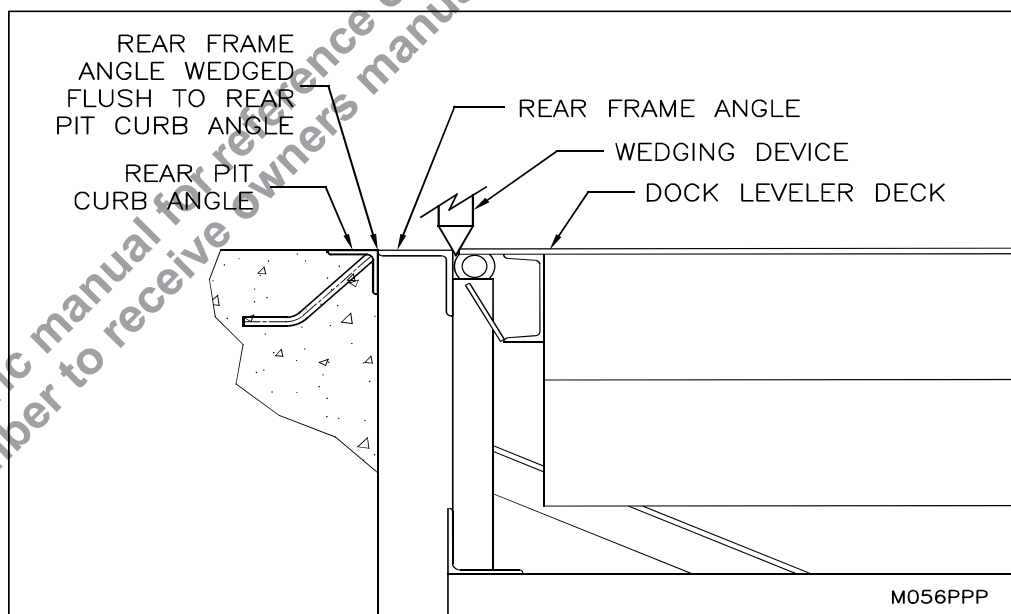

Figure 15: Wedging the Rear Frame Angle
4. ___ Make sure the rear pit curb angle is straight and level prior to installation. Make sure the dock leveler rear frame angle (or flat bar) is straight to match the rear pit curb angle. If the rear frame angle (or flat bar) is not straight then force the angle back to match the straight rear pit curb angle using a wedging device between the frame angle and the back of the deck as shown in "Figure 15: Wedging the Rear Frame Angle to the Rear Pit Curb Angle" on page 15. Tack weld the straightened angle to the rear pit curb angle. Repeat the wedging process as required over the length for the rear frame angle.